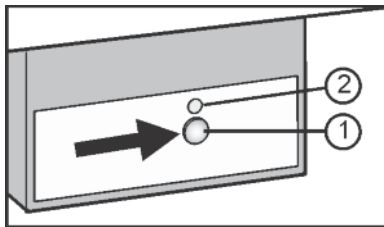

Fig. 48
- ▶ Press On/Off button Fig. 48 (1) so that the LED Fig. 48 (2) lights up.